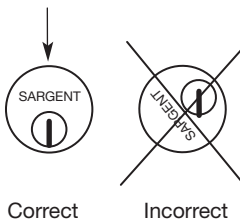

Fig. 8A
1. Verify orientation of cylinder so that SARGENT logo is right-side up (Fig. 8A).